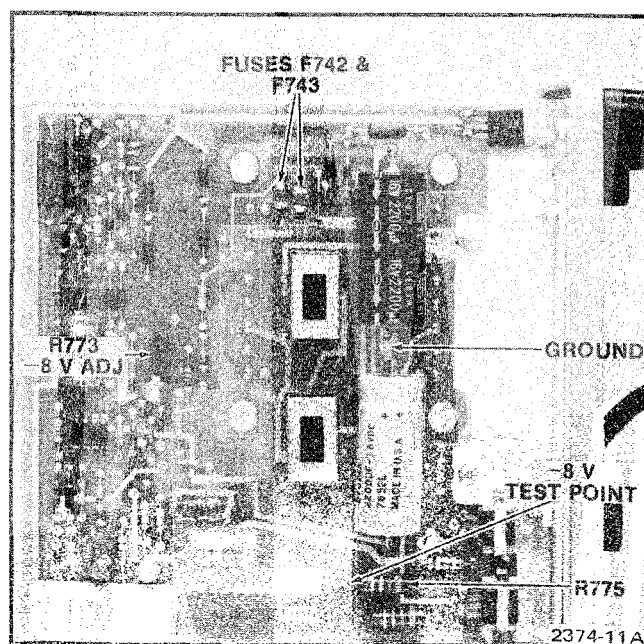

Figure 4-7. Low-voltage power supply adjustment location.
a. Set the digital voltmeter to a 20 V dc range and connect the LO lead to the junction of C742-C743 (ground). Connect the HI lead to the end of R775 illustrated in Figure 4-7 (-8 V point). If the meter reads between -7.96 V and -8.04 V proceed to part c. If the meter reading is outside these limits, proceed to part b.
b. ADJUST—R773 (-8 V Adj) for a reading of -8.00 V dc (see Figure 4-7).